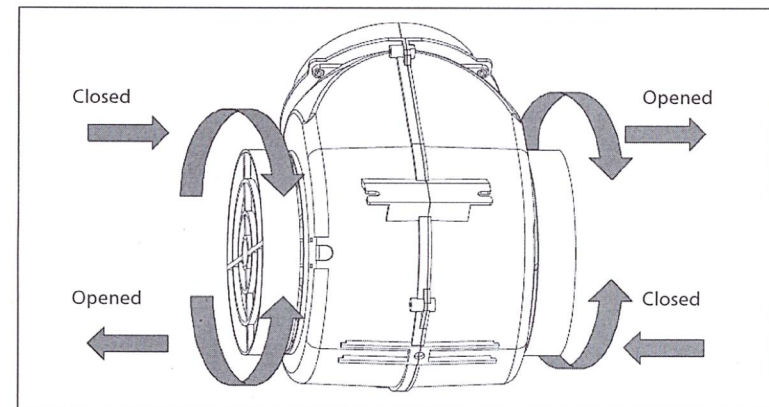

Fig. 2
2. The charcoal filters are situated on both sides of the motor. Turn the filters, until they are secured (see Fig. 2).